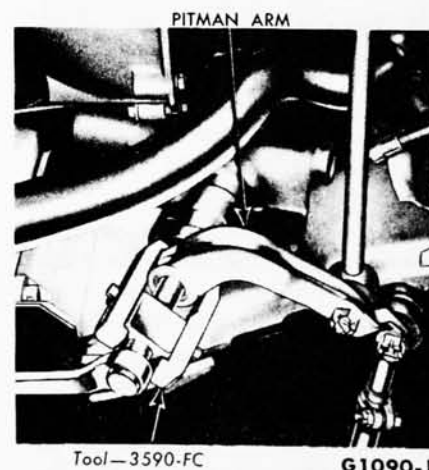

FIG. 20—Removing Pitman Arm
3. Raise the car and disconnect the Pitman arm from the sector shaft (Fig. 20).